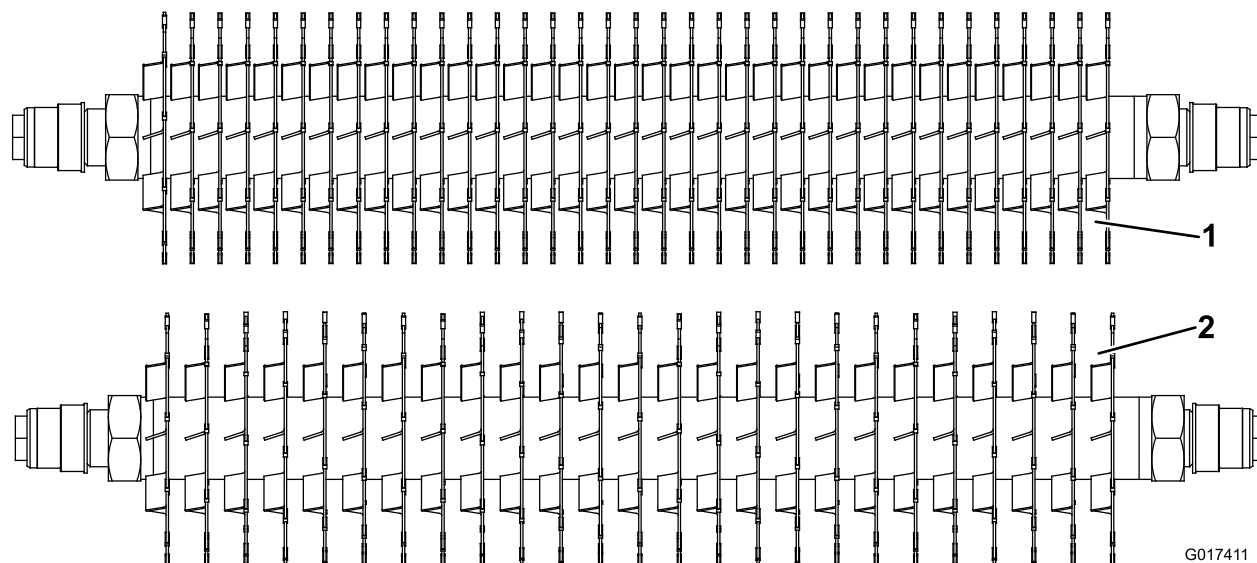

Figure 13
To change the configuration of the verticutter from the standard .75 inch spacing to .50 inch spacing requires an additional (34) spacers, part no. 17-1580 and an additional (10) carbide blades, part no. 106-6355 or an additional (10) regular blades, part no. 17-1590 (Figure 13).